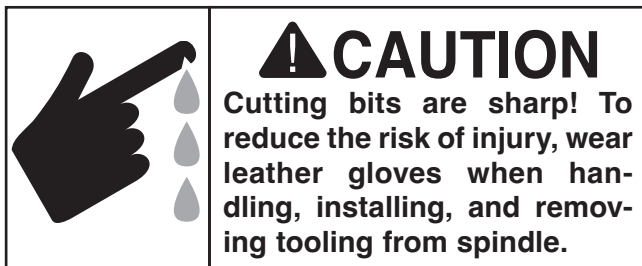

Figure 40. Gantry in raised position.
6. Fully tighten all fasteners installed in **Step 5** to secure gantry position (see **Figure 40**).